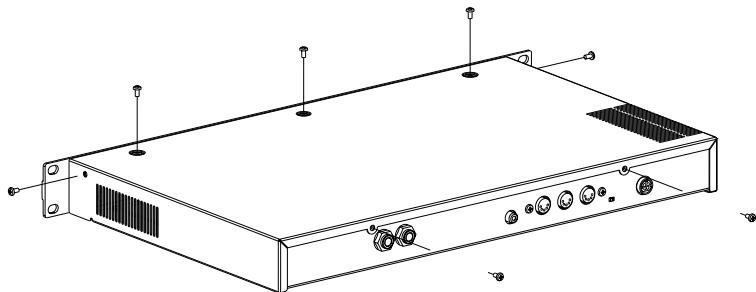

Figure 10 Removing the retaining screws
3. Using a #1Phillips screwdriver, remove the seven screws that secure the top panel (see Figure 10).